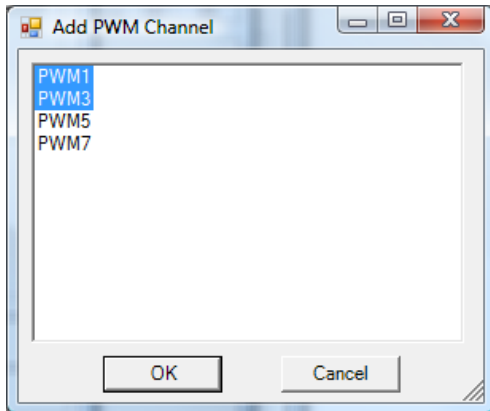

Figure 2.10 - ADD PWM Window
6. In the ADD PWM dialog, select the channels to install. To select multiple PWM channels, hold the CTRL key while clicking on the channel. Refer to Figure 2.10.